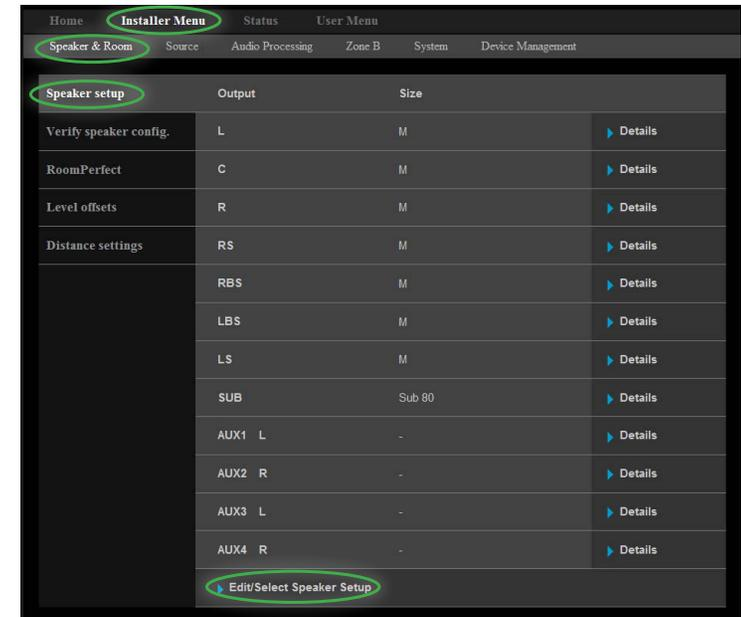

Figure 5
6. Click on “Installer Menu” followed by selecting “Speaker Setup” and then “Edit/Select Speaker Setup” Menu items. Refer to figure 5.